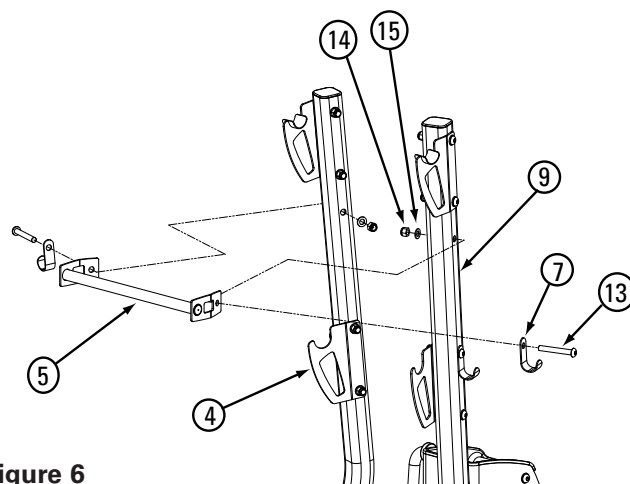

Figure 6
- 6-1** Attach the Towel Rack (#5) and one Washer Hook (#7) to the outside of each Side Tube (#9) above the Bar Hook Brackets (#4) using as the hardware shown in **Figure 6**. Make sure that the Towel Rack rod is toward the Base Plate.